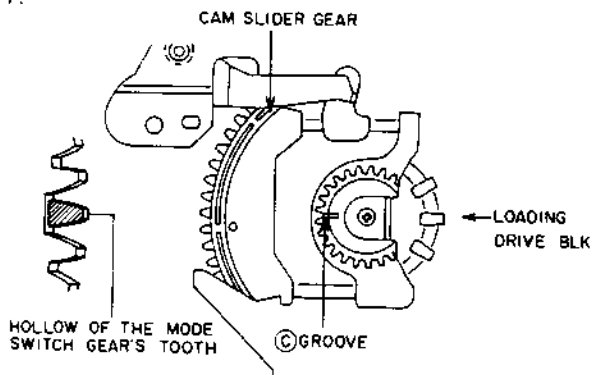

Fig. 4-17
- 2) Attach the **MODE SELECT SWITCH** to the **LOADING DRIVE BLK**. At this time, align the hollow of the gear's tooth (reverse side of the © mark ) with the © groove of the **CAM SLIDER GEAR** as shown in Fig.4-17.